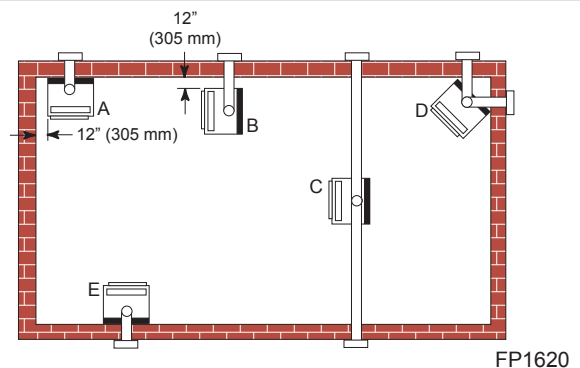

Fig. 1 Locate gas fireplace.
**Note (Fig. 1):** \*(A) and (B) must maintain a 12" (305 mm) clearance between the wall and side glass of fireplace.